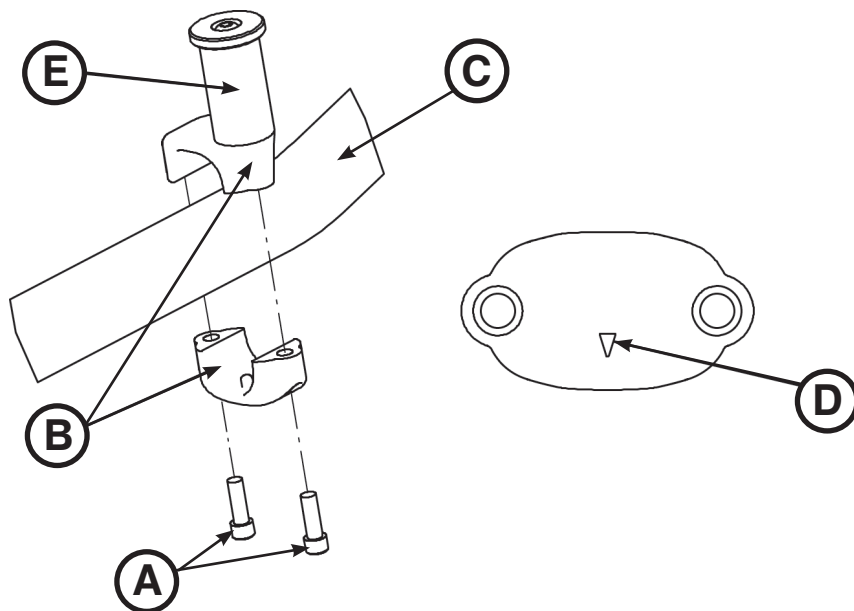

Figure 64: Cot Retaining Post
1. Using a 3/16" hex wrench, remove the two socket head cap screws (A) that hold the pin brackets (B) to the base frame (C) (Figure 64).
Note: If the arrow (D) on the bottom bracket of the retaining post (E) points toward the head end of the cot, the retaining post is set for an X-frame style cot. If the arrow points toward the foot end of the cot the post is set for an H-frame style cot (Figure 64).